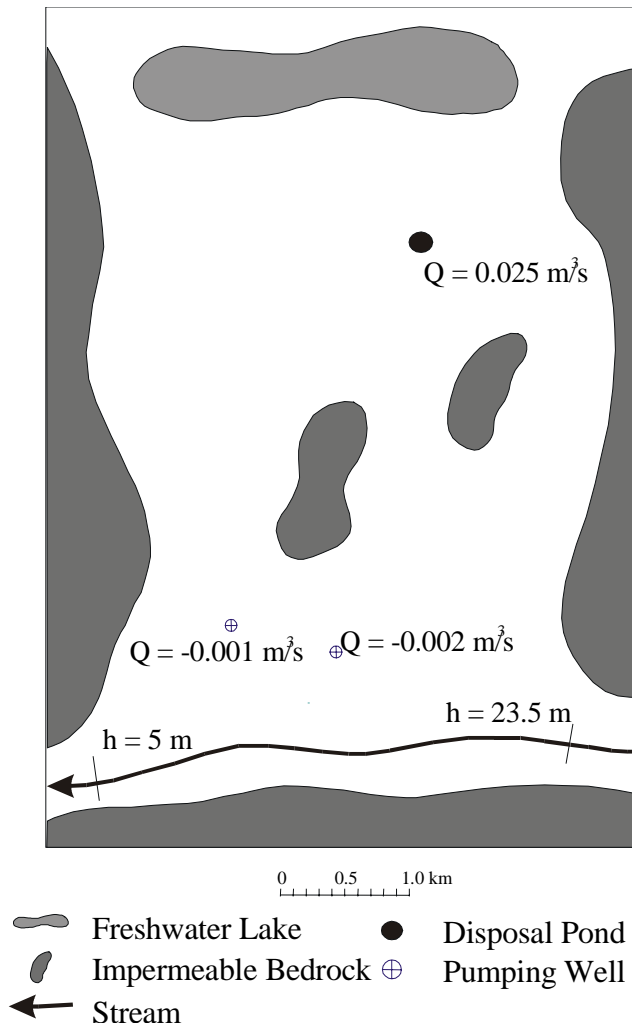

Figure 24. Base map for a two-dimensional sample problem.
The following example is modified from Hornberger and Konikow (1998). It is designed to illustrate the new features of the MODFLOW-GUI. That example was loosely based on the ground-water contamination problem documented at the Rocky Mountain Arsenal, Colorado (Konikow, 1977). Because the example is greatly simplified, it does not represent any actual field situation. The information needed to define the problem are in the base map (figure 24, rma_map.dxf) and Table 7.
16. There are two pumping wells in the model. Their pumping rates and locations are shown in figure 24. We will assume that the wells fully penetrate the aquifer, so we will set the top and bottom elevations of the well screen equal to the top and bottom elevations of the aquifer. Link them using the expression editor. The expression for **Top Elevation** on the **Well Unit1** layer should be **Elevation Top Unit1**. The expression for **Bottom Elevation** on the **Well Unit1** layer should be **Elevation Bottom Unit1**. Click on the **Done** button and activate the **Well Unit1** layer. Now select the Point contour tool. To do this, locate the contour button on the left side of the Argus ONE™ main window. It is underneath the navigate button. Click on the contour button and hold down the mouse button until a pop-up menu appears. Select the third item in the menu to select the point contour tool. Its symbol should look like a cross. Now click once at the location of one of the pumping wells to check the values assigned to the top and bottom elevations. They should now be set correctly by the expressions. Set the pumping rates to the values shown in figure 24. The negative values of the pumping rates indicate that these wells pump water out of the aquifer rather than into it. **Stress1** is the parameter used to set the pumping rate for the first (and, in this case, only) stress period. The default values of **IFACE1**, a MODPATH parameter, can be left. By default, the contours will be labeled with the value of their first parameter. If you wish them to be labeled with their pumping rate, color the contours by their pumping rate. You can do this by selecting the down arrow next to **Color** on the left side of the Argus ONE main window and then selecting **Stress1**.